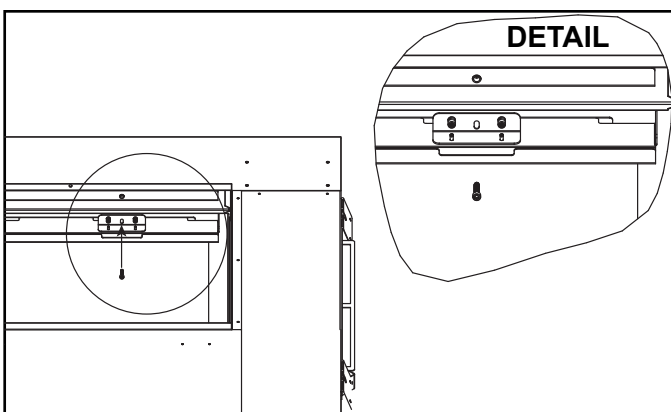

Figure 11.18 Glass Retainer Bar Assembly Installation
5. To fully seat the glass retainer bar assembly, carefully thread the screws, which were removed from the rivnuts in Step 2, into the center hole of the bracket assembly on each side. See Figure 11.18. Use caution to not cross thread the screw. Once both screws are properly aligned and partially installed, the screws may be installed completely.